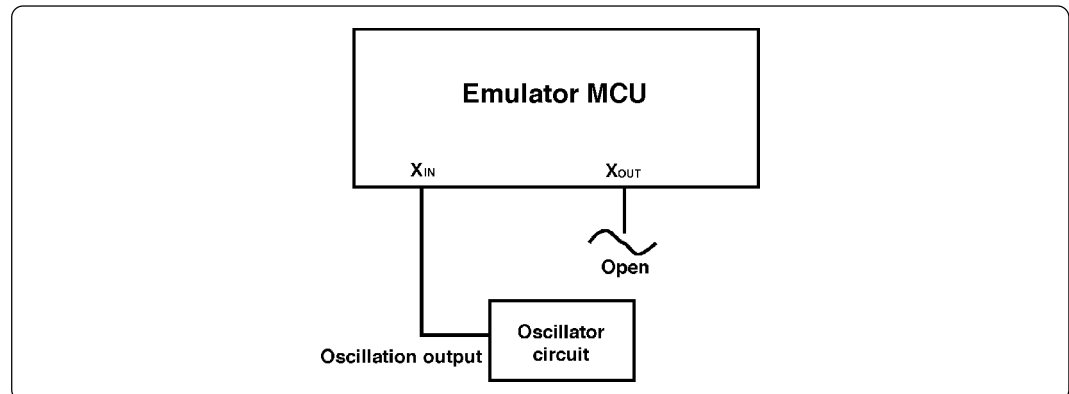

Figure 3.3 External oscillator circuit
- To operate the emulation pod with an oscillator on the target system, construct the oscillator circuit as shown in Figure 3.3 in the target system and input the oscillator output at 50% duty (within the operating range of the evaluation MCU) into the XIN or XCIN pins. And the XOUT, XCOOUT pins should be open.